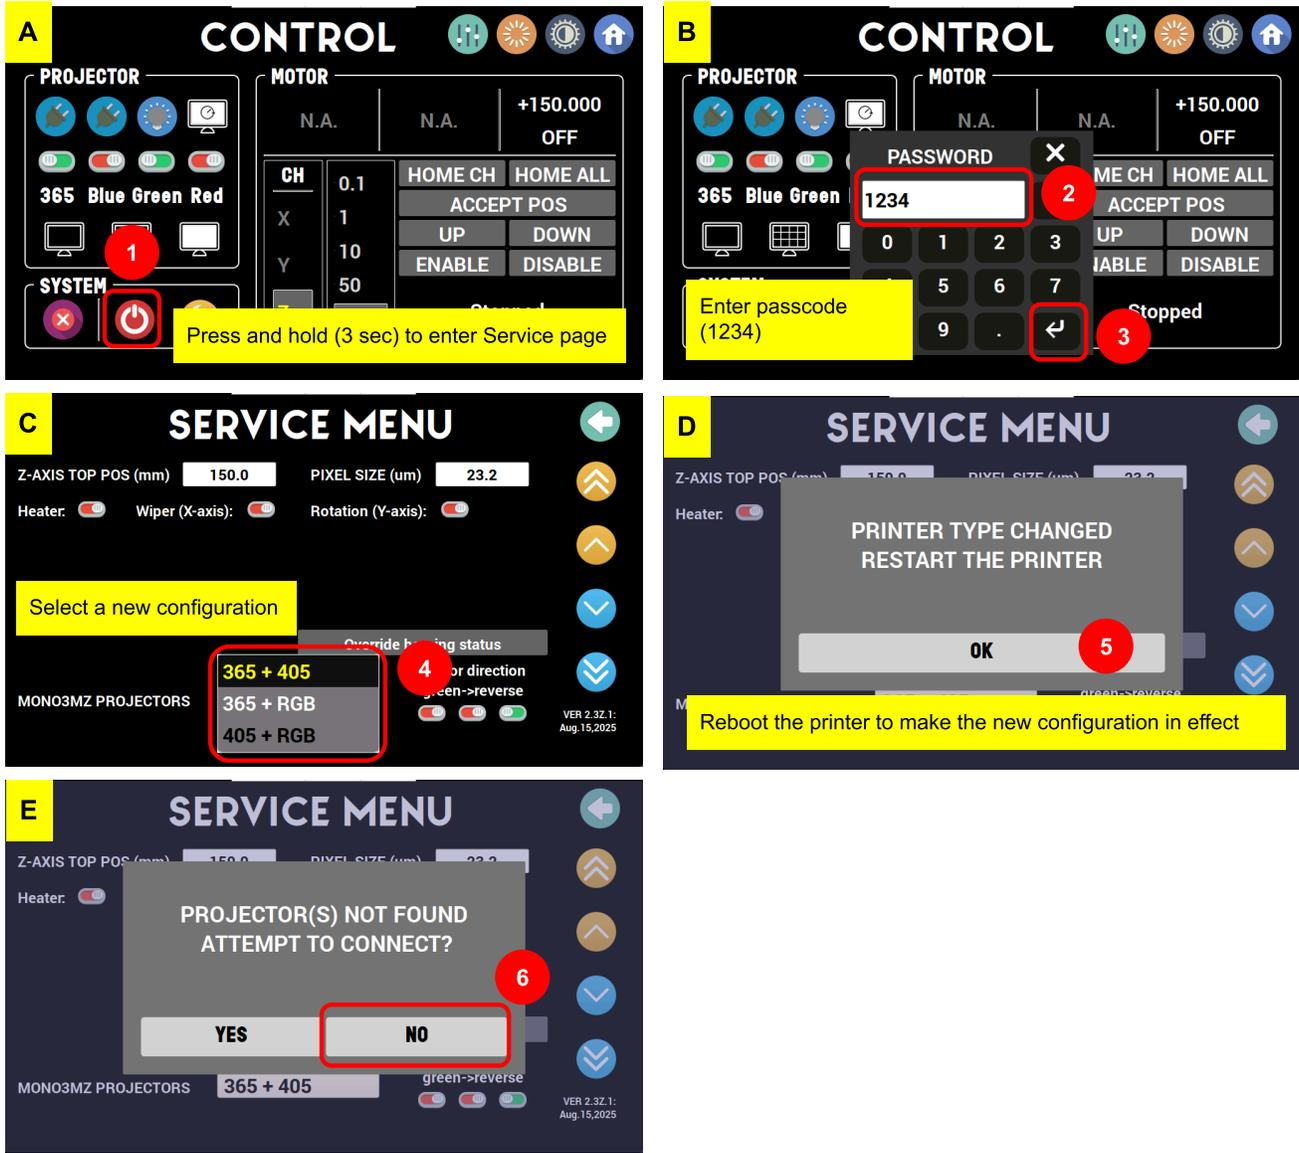

Fig. 24. Change of the projection configuration on the Service page
- Once you install a new set of projectors, you need to change the firmware accordingly as shown in **Fig. 24**.